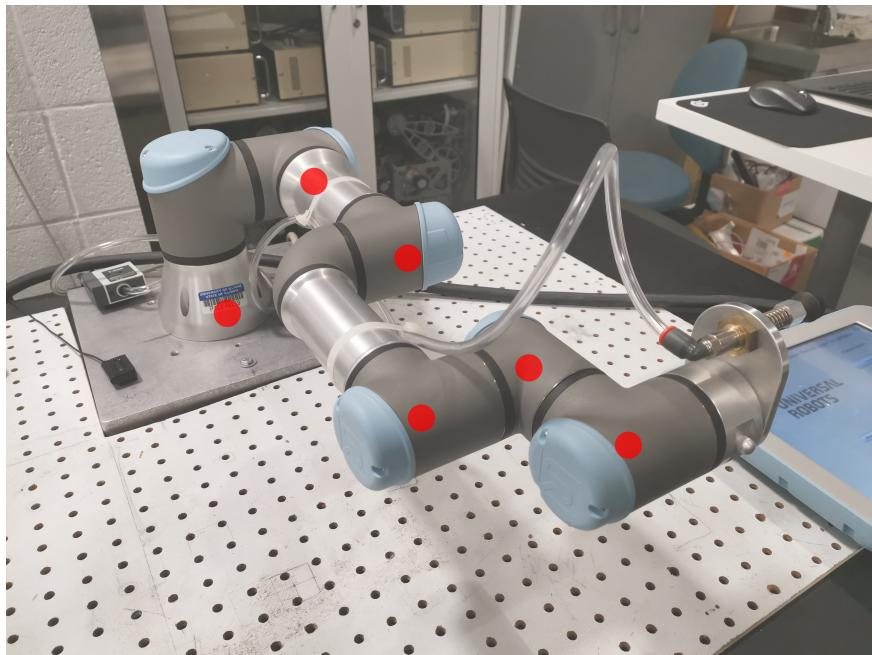

Figure 3.4: Joint center locations on UR3.
- Figure 3.4 shows the joint centers to aid in locating your q values.